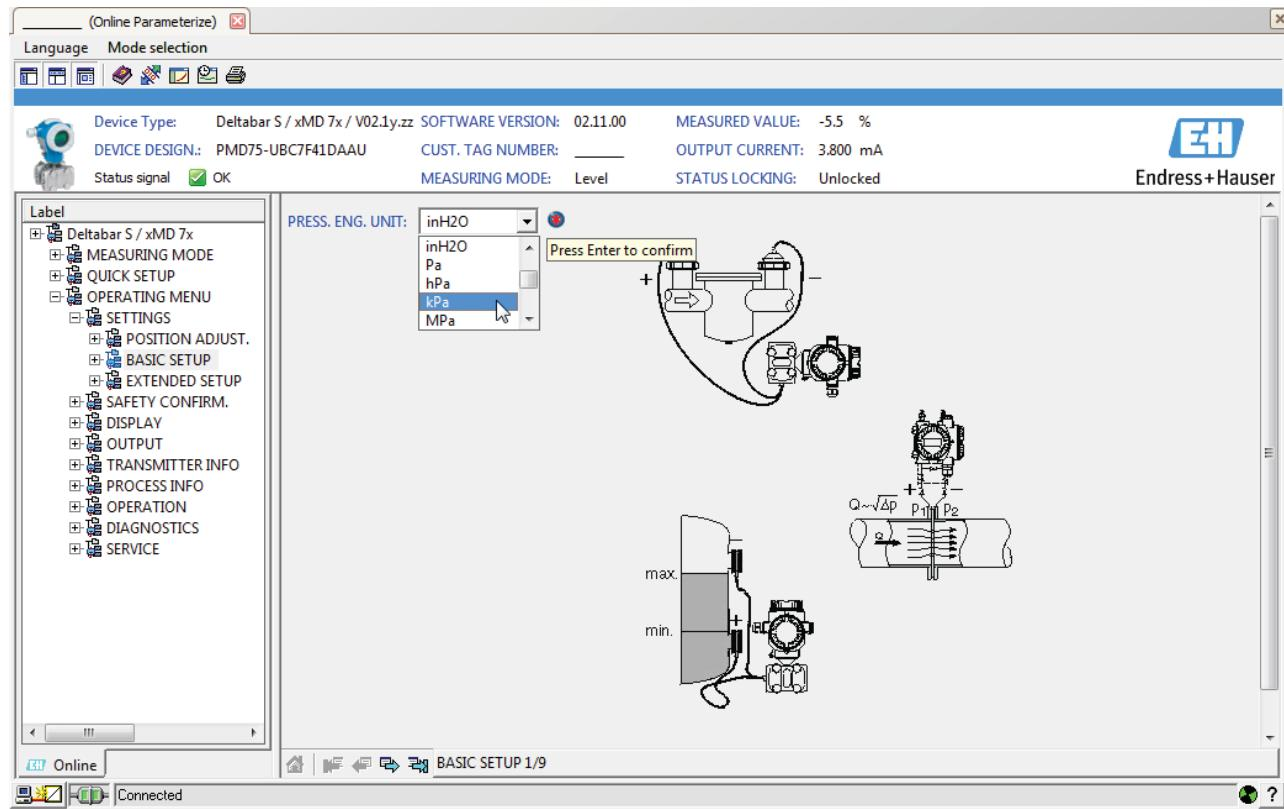

Figure 2-12. Pressure Unit.
- 10.** Next, go to **OPERATING MENU ▶ SETTINGS ▶ BASIC SETUP** and modify the unit from inH₂O to kPa. In the **PRESS. ENG. UNIT** drop-down menu, select **kPa** (Figure 2-12). Then, press *Enter* to confirm the command.